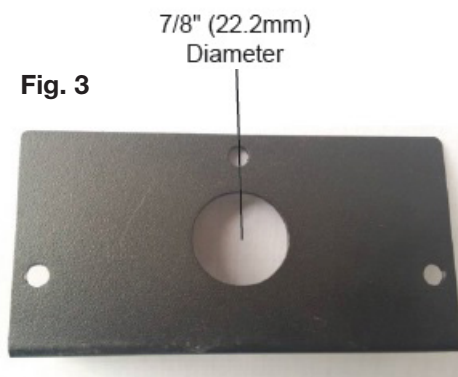

Fig. 3
- Take the new cover plate, supplied in the hardware bag. Punch out the 7/8" (22.2mm) hole and install a box connector through the junction box. Snap the box connector clamp onto the supply wires (**Fig. 3**).